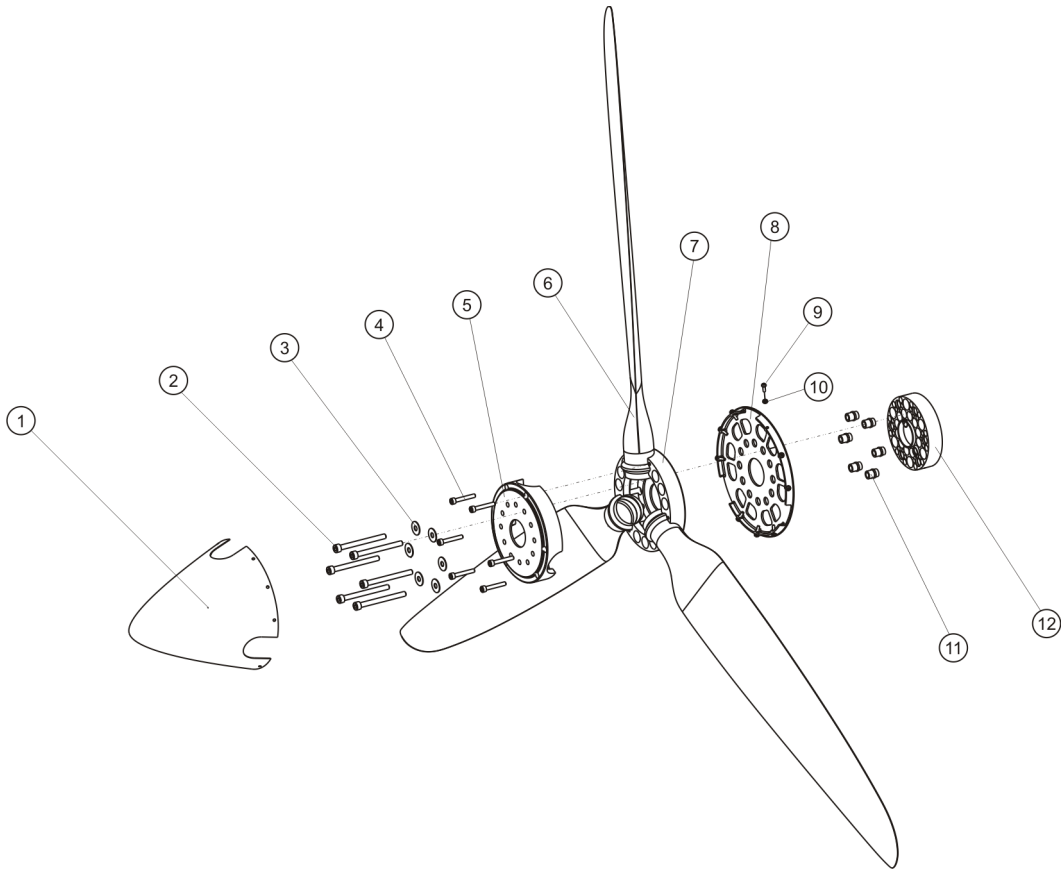

Fig. 1 - Propeller HTC
- 1 Contents of the kit (Fig. 1):